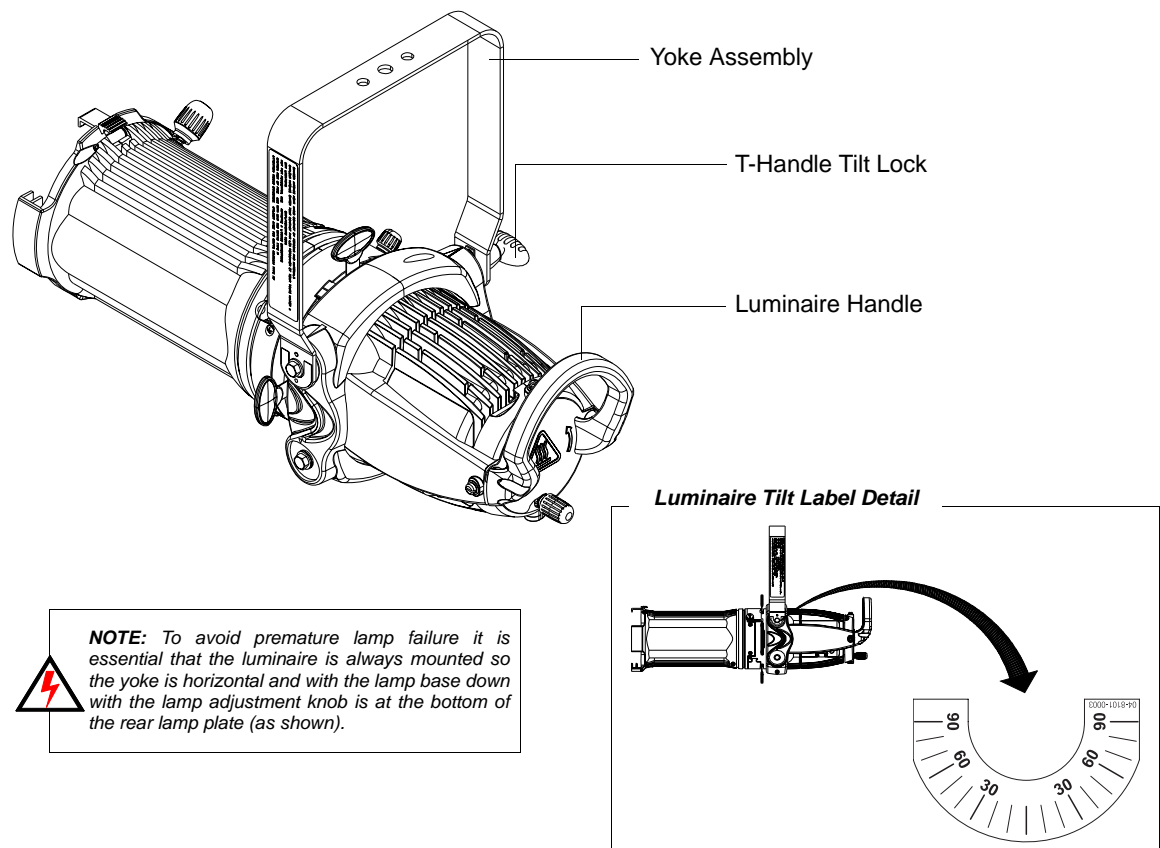

Figure 5: Luminaire Tilt Adjustment
LEKO LITE Luminaires offer variable tilt settings. The unit can be set at a specific angle (in relation to its mounting position) or at an angle between 0 to 90 degrees. When the yoke is in the position shown in Figure 5, you have full range access to shutters the gate etc. If you flip the yoke over some access is reduced but the over all volume the luminaire takes up is reduced. This is particularly useful in tightly hung lighting positions or in theatres with low grids.
- Step 2. Loosen, but do not remove, T-Handle Tilt Locks at base of yoke assembly as shown in Figure 5.